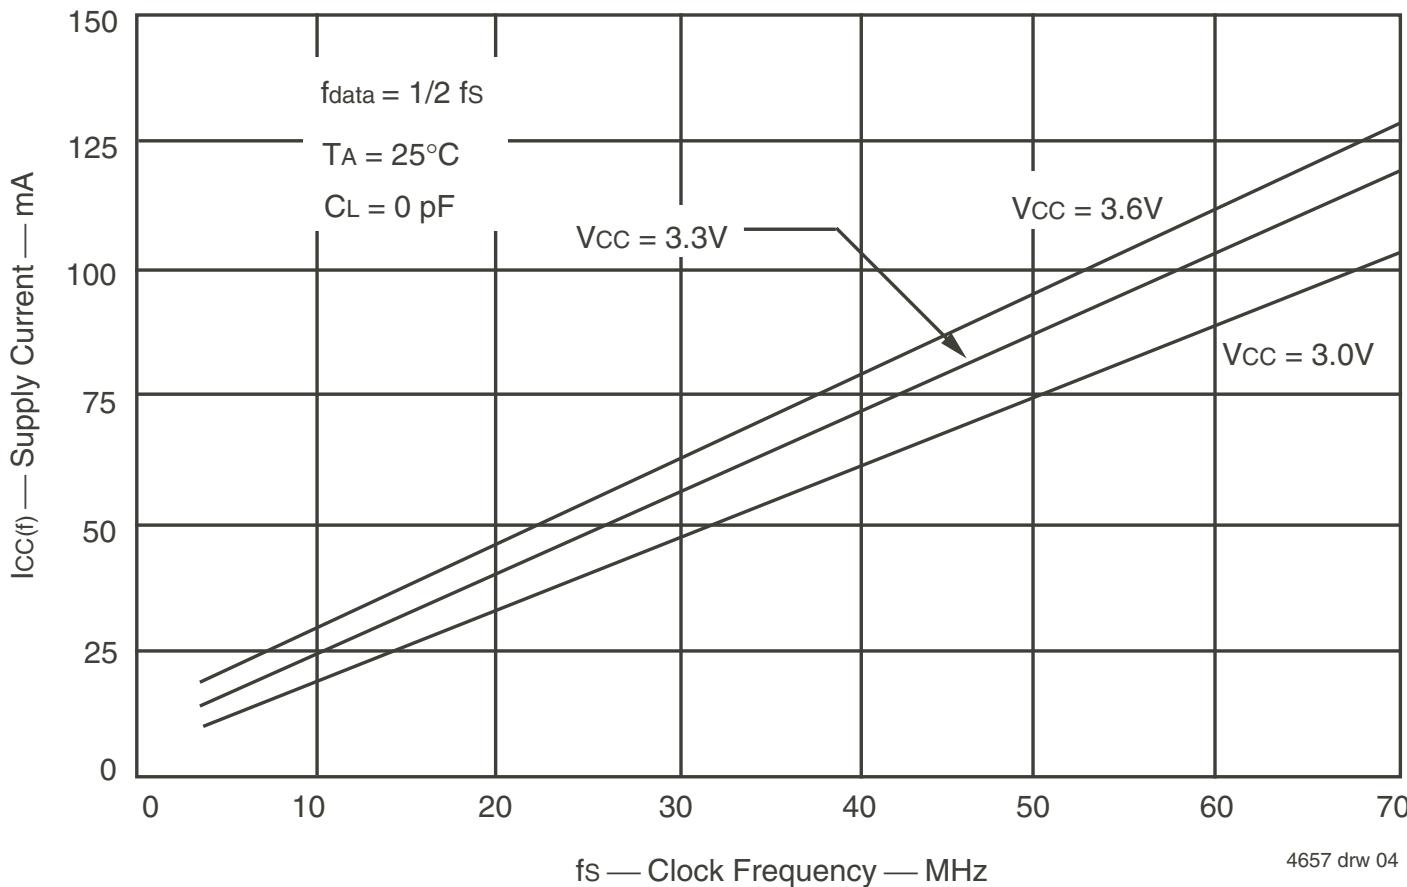

Figure 1. Typical Characteristics: Supply Current (I_{CC}) vs. Clock Frequency (f_s)
2. For additional I_{CC} information, see Figure 1, *Typical Characteristics: Supply Current (I_{CC}) vs. Clock Frequency (f_S)*.
With $I_{CC(f)}$ taken from Figure 1, the maximum power dissipation (P_T) of the IDT72V3611 may be calculated by: